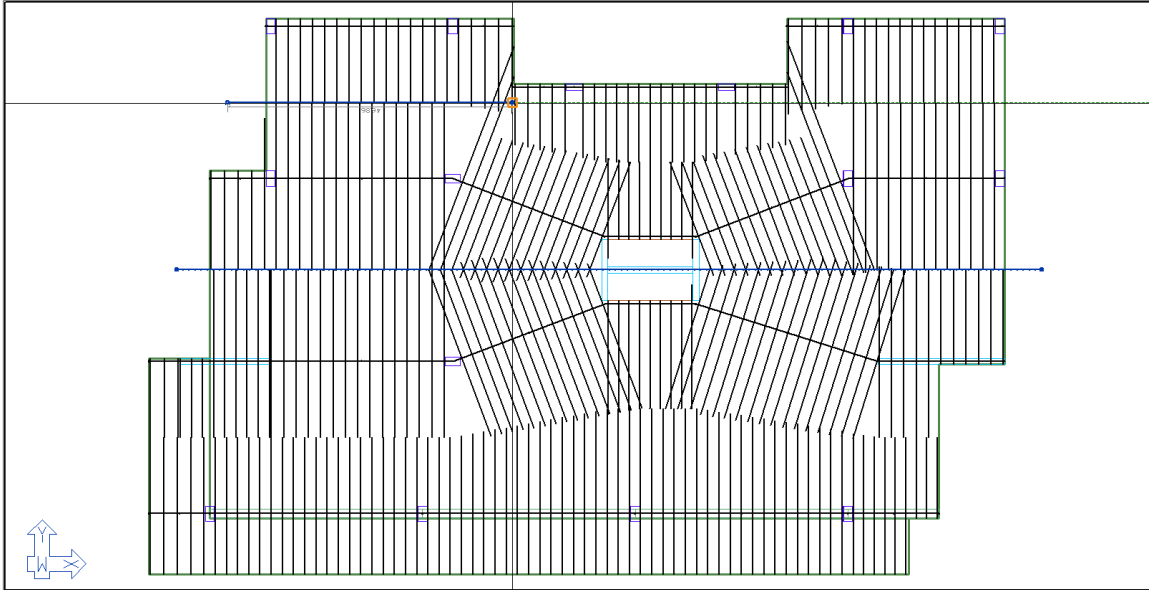

FIGURE 9-25
- Move your mouse to the right just under the slab at the re-entrant corner as shown in **FIGURE 9-25**.